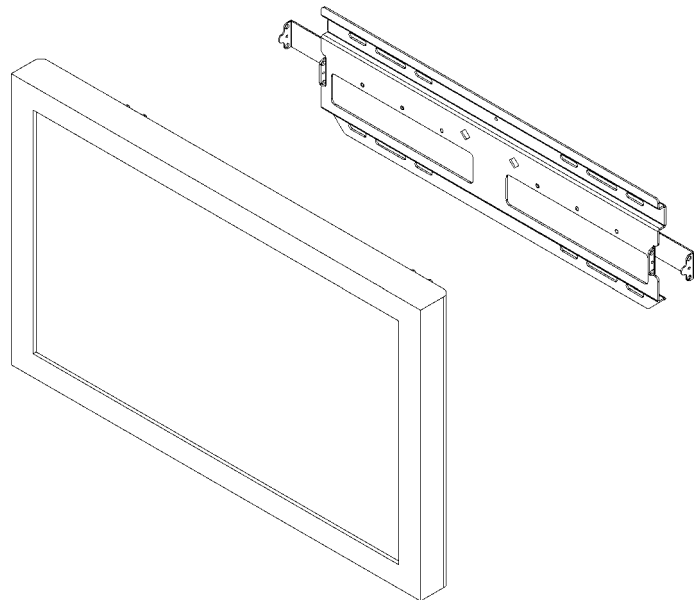

Figure 11. Remove Display
2. Slide the security latches out on both sides to disengage the display from the wall plate. See Figure 11.
3. With an assistant, lift the display up and off the wall plate (see Figure 11) to remove the display from the wall.